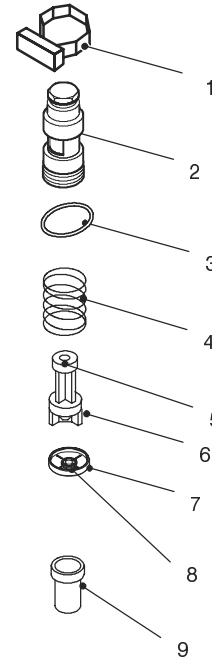

Fig. 14.3
When the flow rate through the d.h.w. circuit reaches about 2,5 litres/min', the float 6 (Fig. 14.3) is drawn towards the right.
14.2 Description and location of parts (Fig. 14.3)
- 3 Unscrew the body 2(Fig. 14.3) and extract the flow switch group.
- 4 To remove the filter from the flow switch group separate the filter 9 from the threaded ring (Fig. 14.3) by levering it.
- 3 Unscrew the threaded ring 7 (Fig. 14.3) and remove it from the body 2.